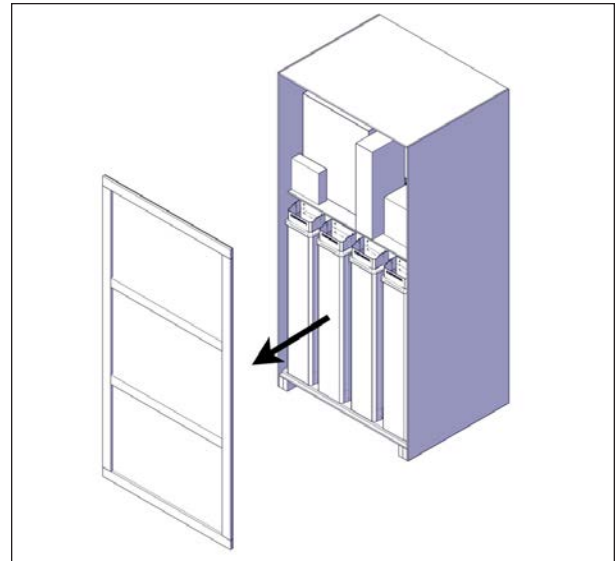

FIGURE 18: FRONT PANEL REMOVAL
5. Remove the front cover and discard, see Figure 18.